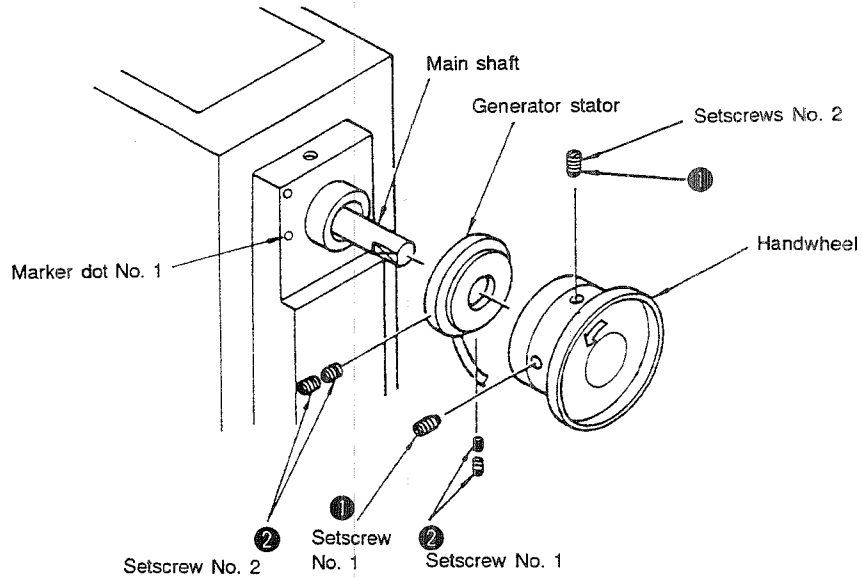

Fig. 5-43-1
- When installing the generator stator, be sure that setscrews No. 2 ② are aligned with marker dot No. 1 on the bracket (Fig. 5-43-1).